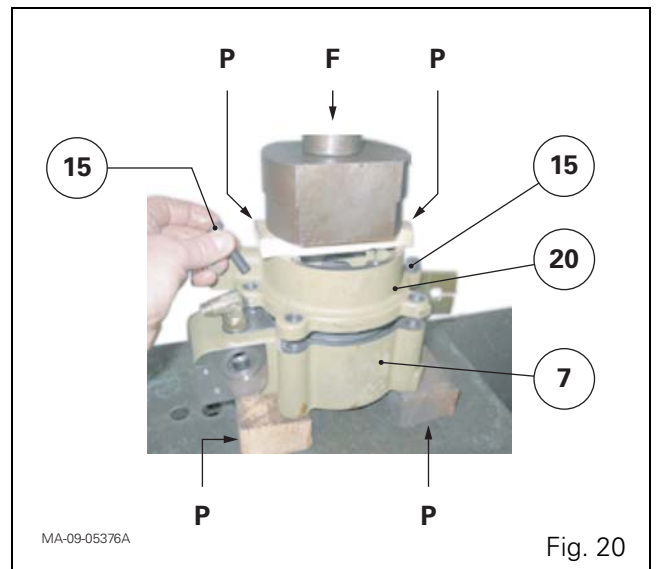

Fig. 20
47. Using the ram press, exert a moderate force (F) on the cover plate (20) (Fig. 20) so as to compress the Belleville washers. As soon as the cover plate (20) reaches the ParkLock unit (7), screw on and tighten the two screws (15) to 57-77 Nm.
48. Lubricate the "O" ring (6). Fit it into the groove of the cover plate (20).
49. On the cover plate (20), screw on the special screw (5) and fit the wedge (4) at the same time. Form a wedge/special screw assembly using two new spring pins.